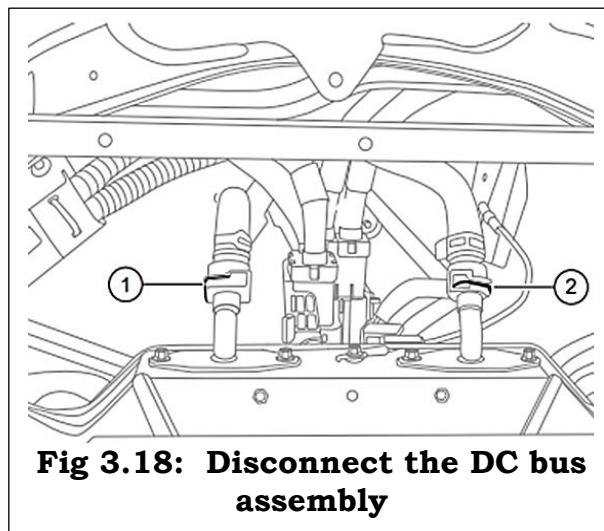

Fig 3.18: Disconnect the DC bus assembly
3. Disconnect the DC BUS assembly. Replacement of DC Bus assembly as shown in Fig. 3.18 (1 and 2 indicate the DC BUS assembly).